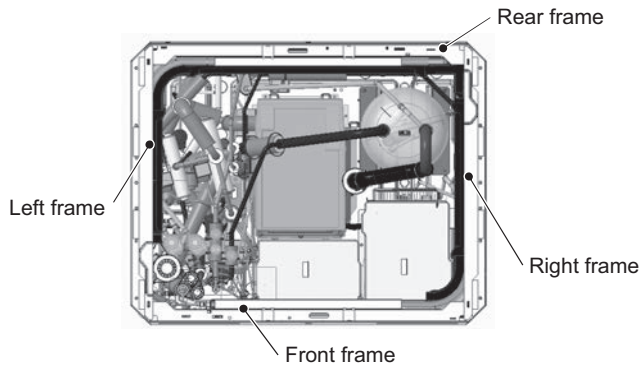

Figure 11
- (14) To remove the front heat exchanger, first remove the front, left, and right frames by unscrewing the 10 screws. (See Figure 11.)
To remove the rear heat exchanger, remove the rear frame in addition to the front, left, and the right frames by unscrewing the 12 screws. (See Figure 11.)